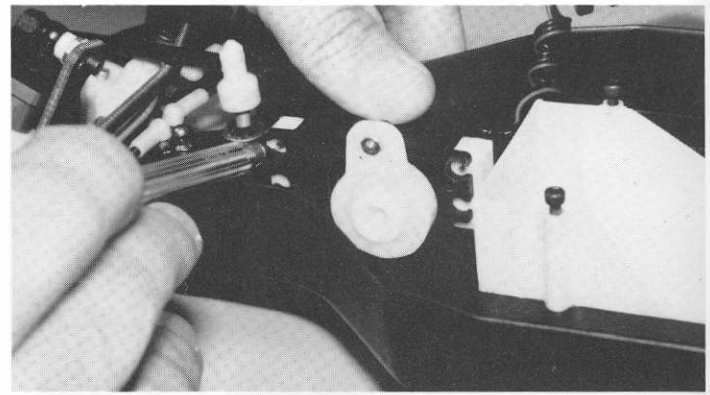

Fig. 159
□ **Fig. 159** Place your servo with servo saver between the two #6336 nylon servo mounts on the chassis. You will see that the #8445 servo saver hits the chassis before the servo goes on the front side. You need to temporarily raise the servo until the servo saver clears the chassis. (With a standard or heavy duty servo horn this will not be necessary.) You can use several of the #6936 #4 aluminum washers to accomplish this. Once the servo saver clears the chassis, slide it back against the servo mounts and mark the centers of the two upper mounting holes. If the holes are too close to the top of the servo mounts, you can install one or two of the #6936 #4 aluminum flat washers under each mount to raise them. Now remove the two servo mounts and drill your marked holes with a #43 drill bit (a 3/32 drill bit will work if used carefully).